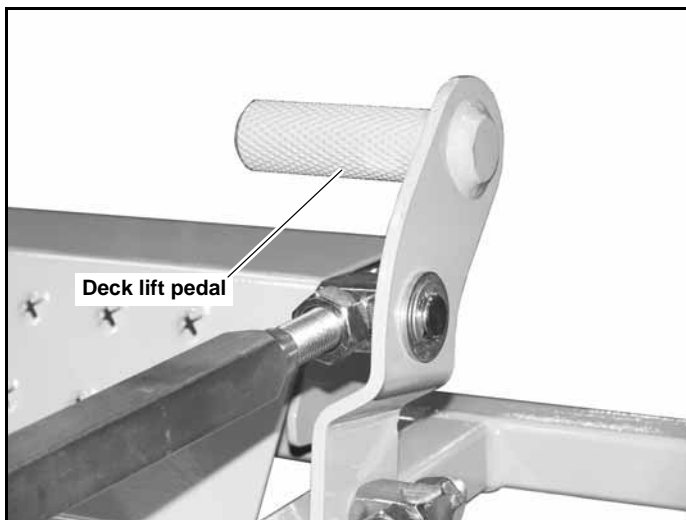

Figure 3-4
**B. Deck lift pedal (Figure 3-4)** — the deck lift pedal is used to raise or lower the deck. Push on the pedal to raise the deck and then place the deck height locking pin into the desired cutting height hole.